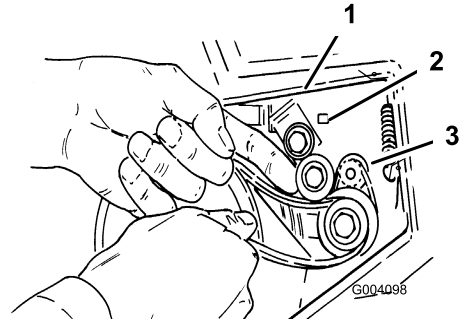

Figure 19
- Slip the new belt over the small pulley (Figure 19).
- Lift up the idler arm and slip the belt under the idler pulley (Figure 19).